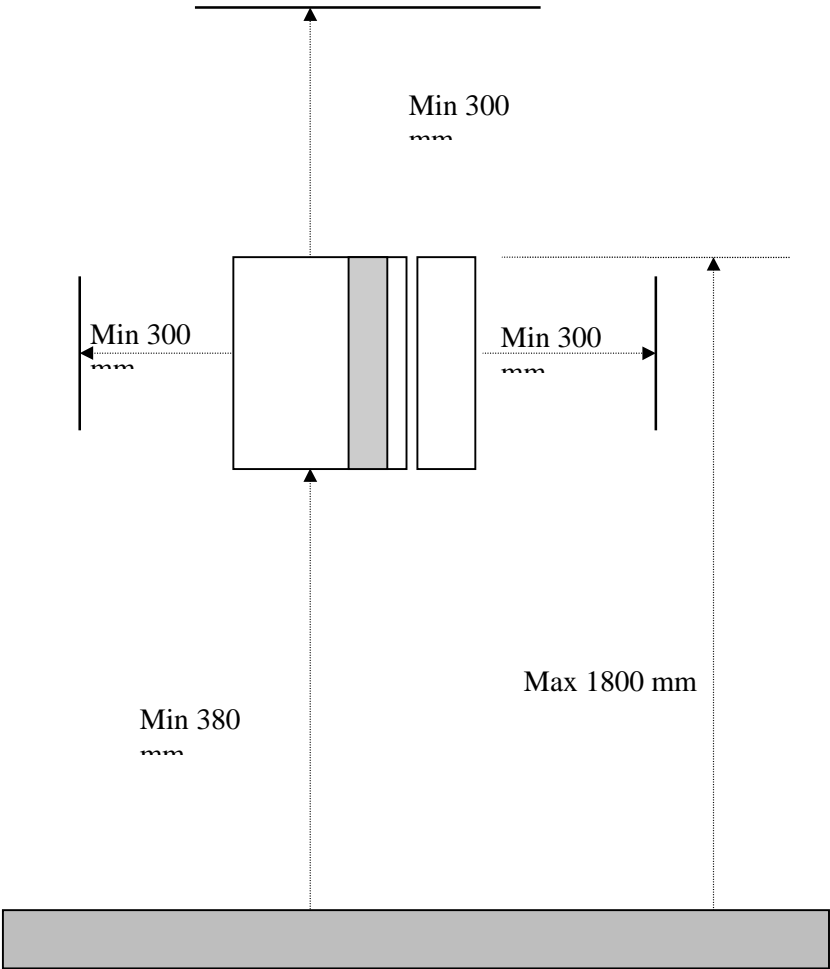

Figure 2-1. Wall Mounting the KSU
- Allow at least 30cm clearance on both sides and 30cm clearance on top of the KSU to ensure proper ventilation. Refer to Figure 2.1